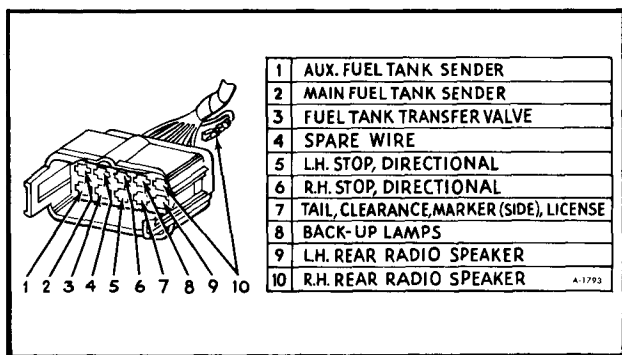

Figure 24—Left-Side Body Wiring Connector
Wiring for rear lighting, fuel tanks and rear speakers passes through a (10) way multiple connector located in the front L.H. corner of the instrument panel. Rear lighting circuits can be checked for continuity through the female portion of this connector. Figure 24 shows the (10) way multiple connector and the appropriate wire position in the connector body. Refer to the vehicle wiring diagram for wire size and code used in the rear end wiring.